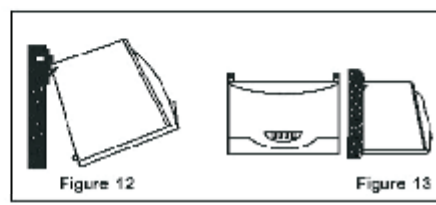

Figure 12
(4) Fit the organism into the claddings (shown in figure12)